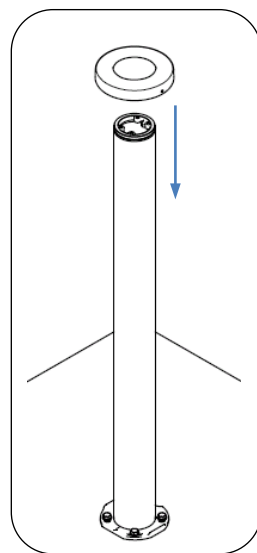

Fig. 7 – Install cover plate
11. Install cover plate over pole. Secure with 2 set screws (included). Align screws with two flat sides of base plate. See Fig. 7.